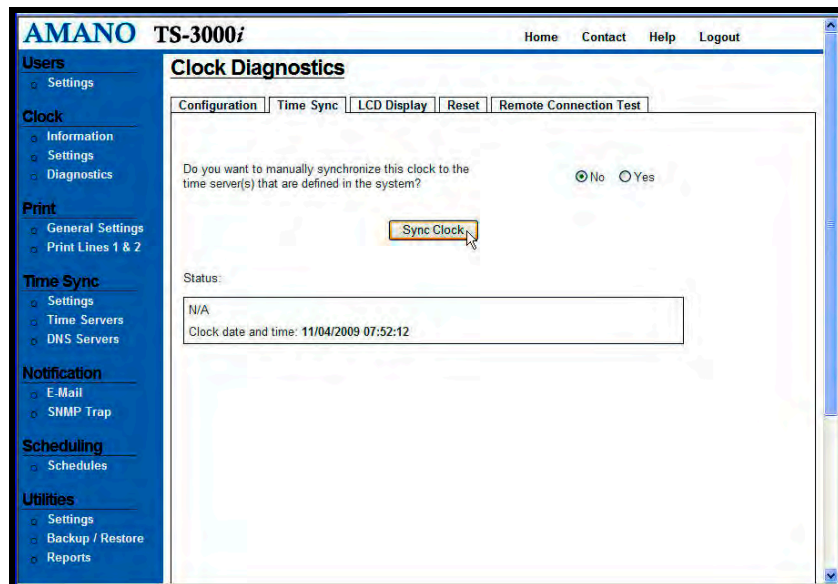

Figure 7-2: Manual Time Sync Clock
- Step 1.** Click on the **Diagnostics** link under **Clock**, and the **Clock Diagnostics** screen will appear. Then click on the **Time Sync** tab and the Time Sync screen will appear (see *Figure 7-2*).